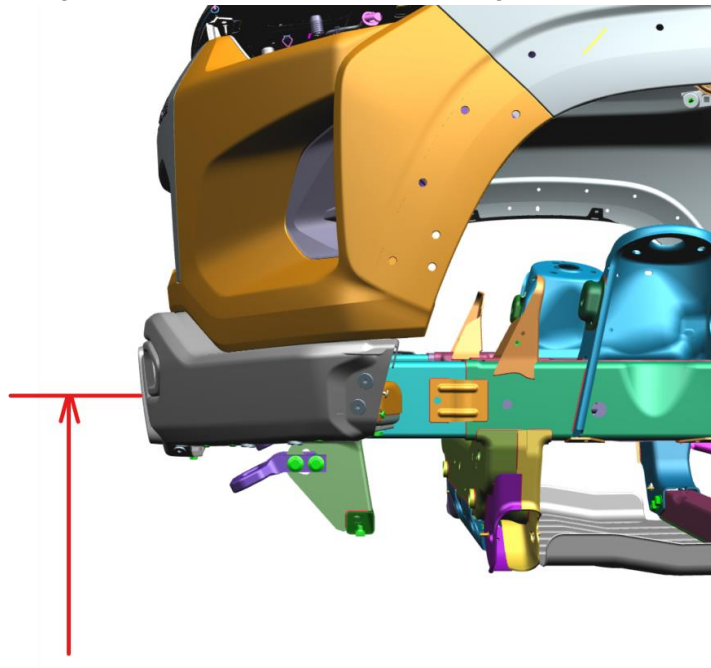

Figure 1 – Bumper Side-view
- Height of AEV frame brackets – Fig. 1